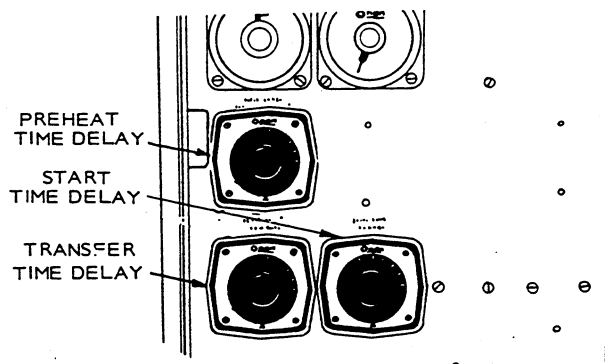

FIGURE 18. START AND TRANSFER TIME DELAY RELAYS
2. Turn the knob on the time delay clockwise to increase delay time, counterclockwise to decrease the delay time. See Figure 18.